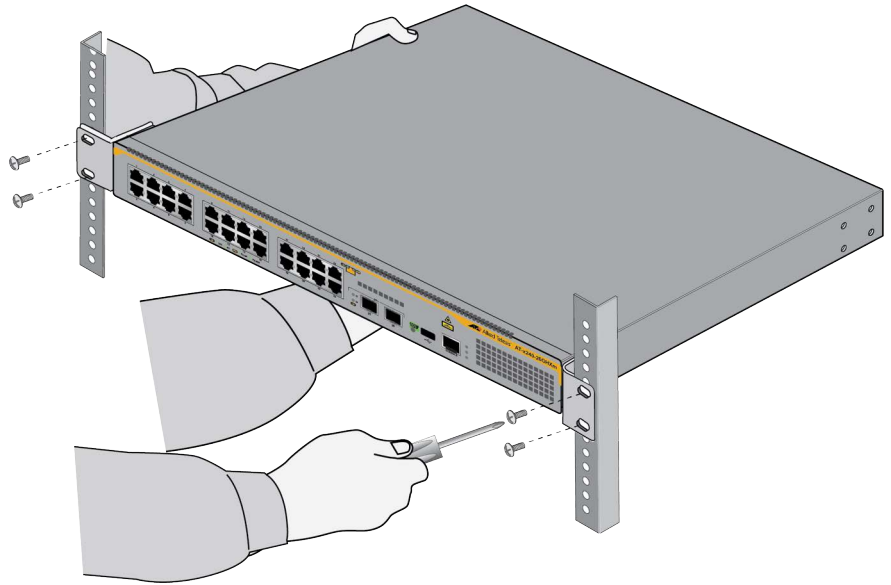

Figure 46. Installing the x240-26GHXm Switch in an Equipment Rack
4. Have another person hold the switch at the desired location in the equipment rack while you secure it using four standard equipment rack screws (not provided). See Figure 46 as an example.